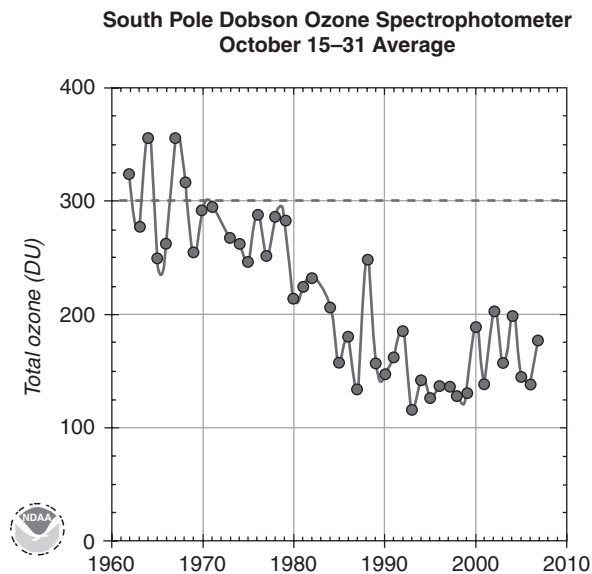

Figure 8.4
- It is over the continent of Antarctica that the largest amount of ozone depletion is seen. Up to 60% of the ozone disappears over some parts of Antarctica during its spring (September–October). Figure 8.4 shows (in Dobson units14) the stratospheric ozone concentration over the continent starting in the 1960s. Ozone measurements are made both from satellite-based and ground-based instruments, making it possible to map the region where depletion is occurring.
▪ Average ozone loss continued to increase through the 1980s. In the 1990s, average values of ozone were 40–50% below the normal of 300, reaching values, for a week or so each year, as low as 70% below normal.16 Ozone levels were still well below normal in 2008 (Figure 8.4).